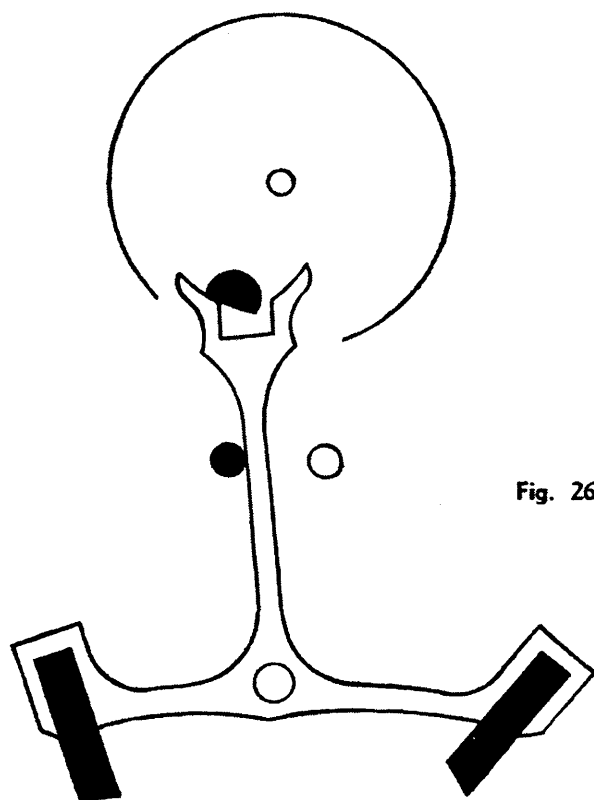
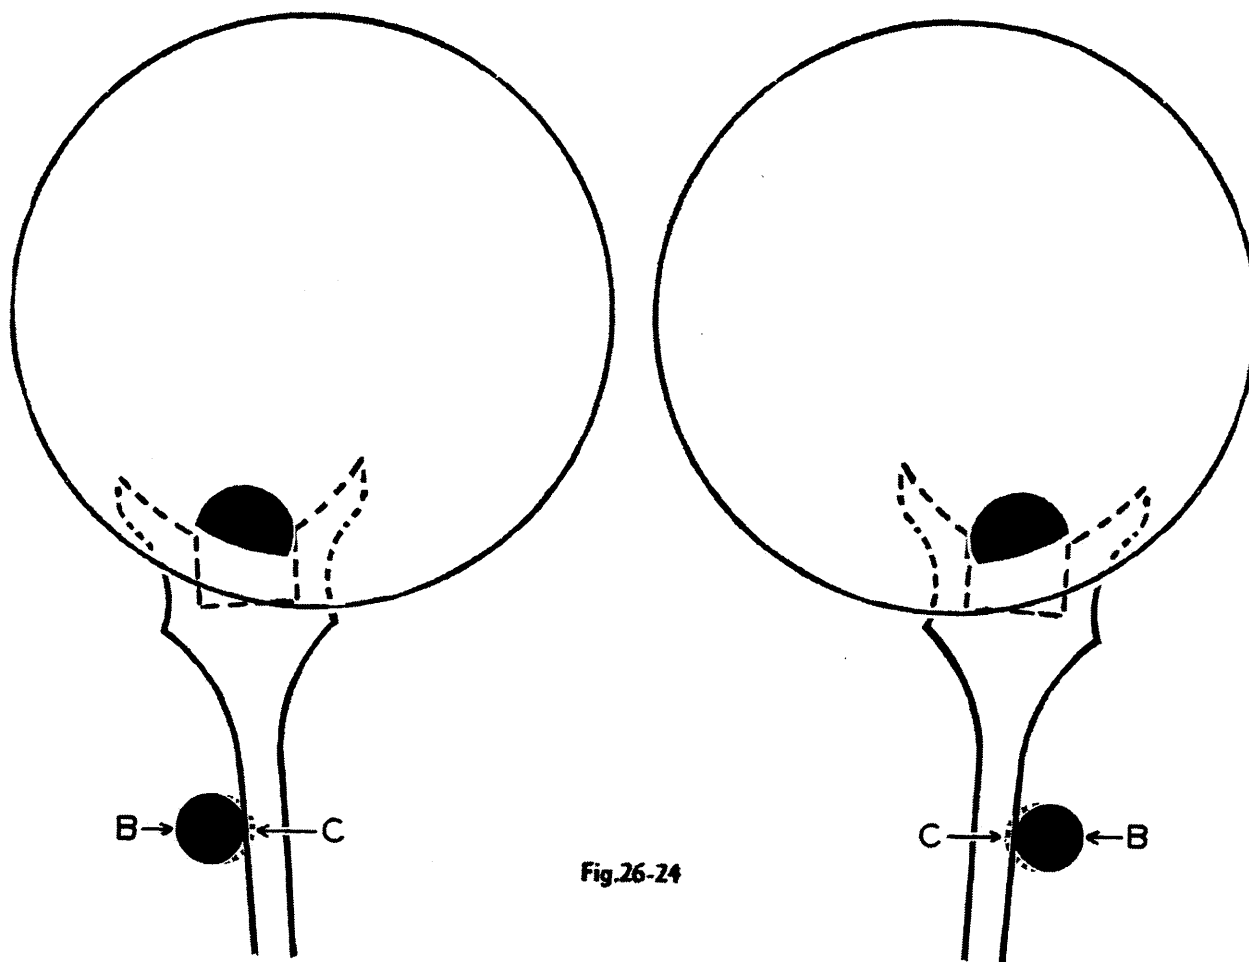

Fig. 26-2
Fig. 26-24
3. Turn in one banking pin until the roller jewel will just pass through the horn of the fork and the corner of the fork slot, figure 26-2.
2. Test fork and roller action as in figure 26-2 by placing the face of the roller jewel opposite the corner of the fork slot. In figure 26-2, the roller jewel has only enough freedom to pass the corner of the fork slot. Figure 26-24 shows the space between the roller jewel and the corner of the slot when the bankings are immovable. This space is determined by the amount of slide allowed which is the difference between the position of the permanent banking **B** and the position of the banking when banked to the drop and illustrated by dotted circle **C**.